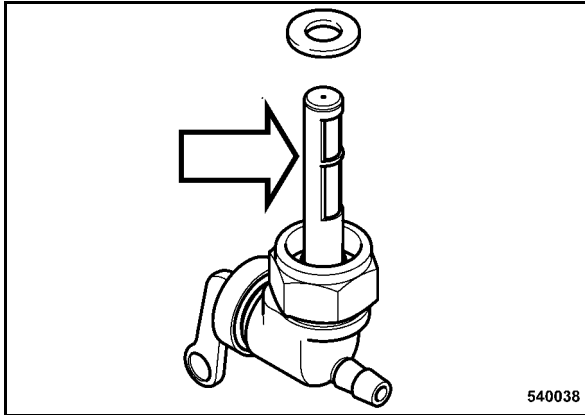

Fig. 66
- Unscrew the fuel valve (Fig. 66).